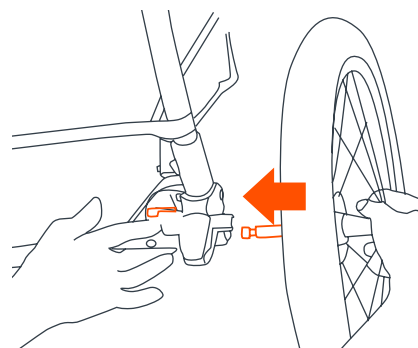

Fig. 6
- 6) • Lean the stroller forward to rest on the front wheel. To attach the rear wheels, push each wheel's axle into the plastic corner fitting (Fig. 6). Depress the metal lever on the inside of the corner fitting as you push the axle into corner fitting. When the wheel will not go on any farther, release the lever.